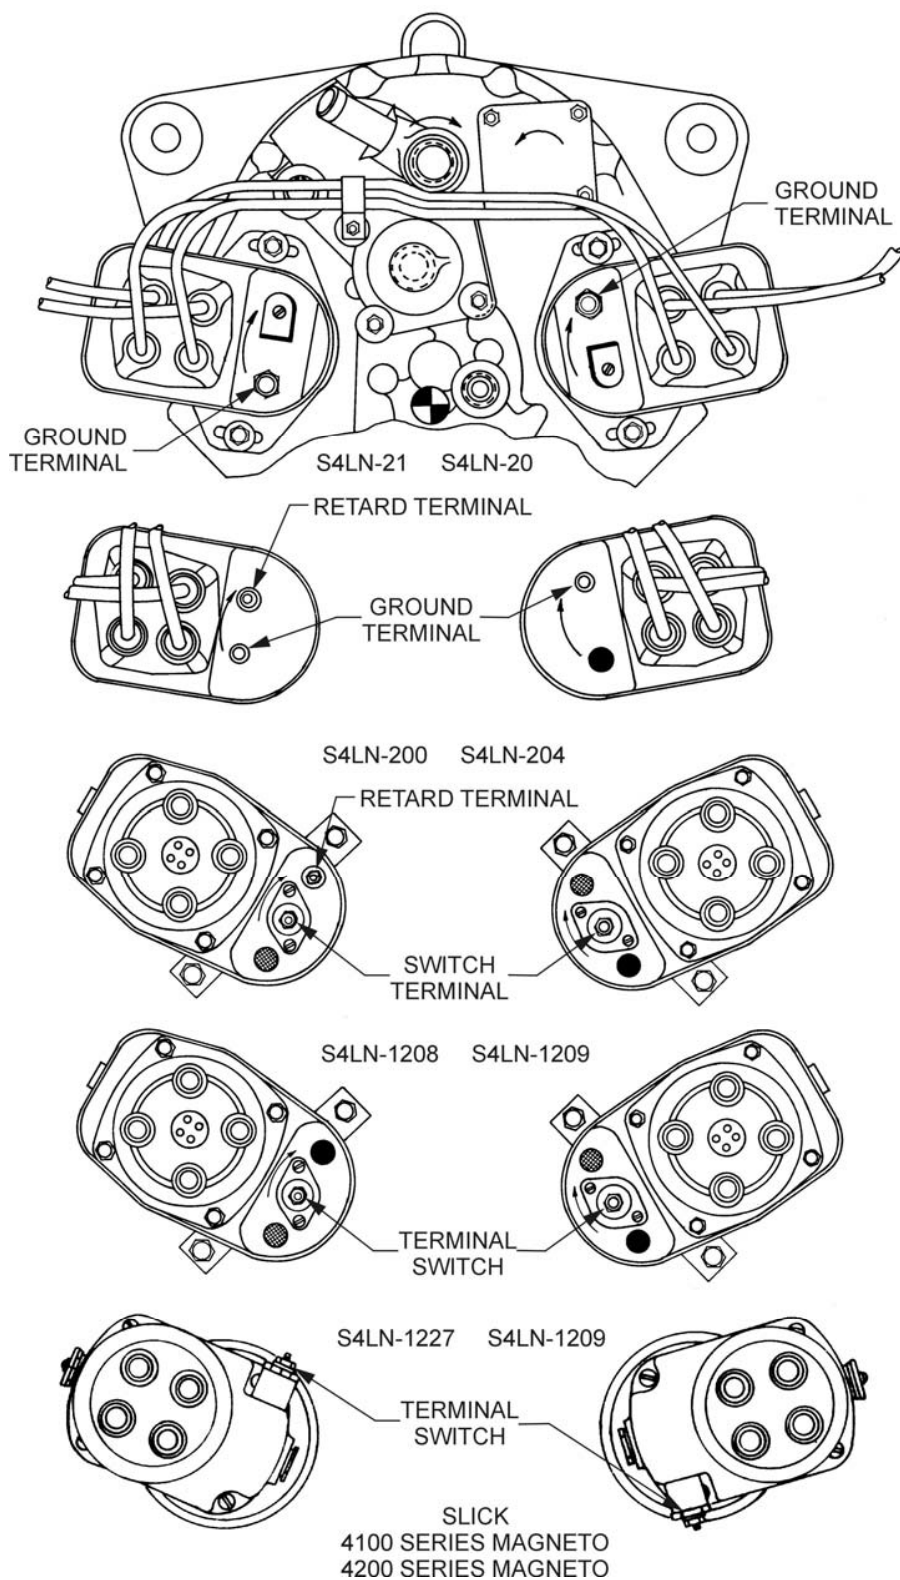

Figure 7-2. Magneto Connections
* SEE FIG. 7-2 FOR MAGNETO CONNECTIONS